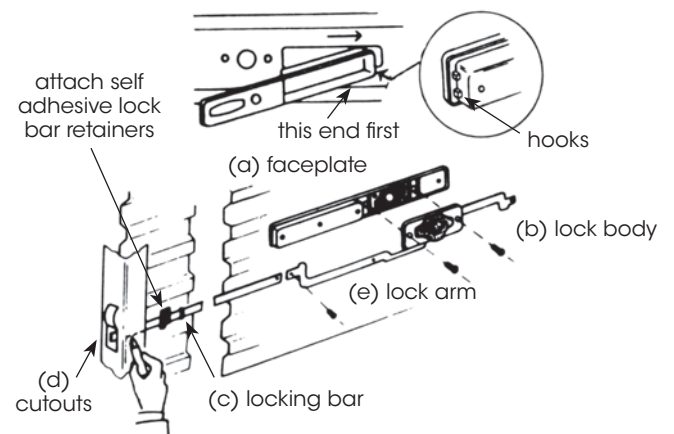

Fig: 2.6.1
- Fit faceplate to outside of door. Fit hooks onto edge of aperture then slide faceplate as far to the right as possible. Use adhesive tape to hold in position Fig 2.6.1.